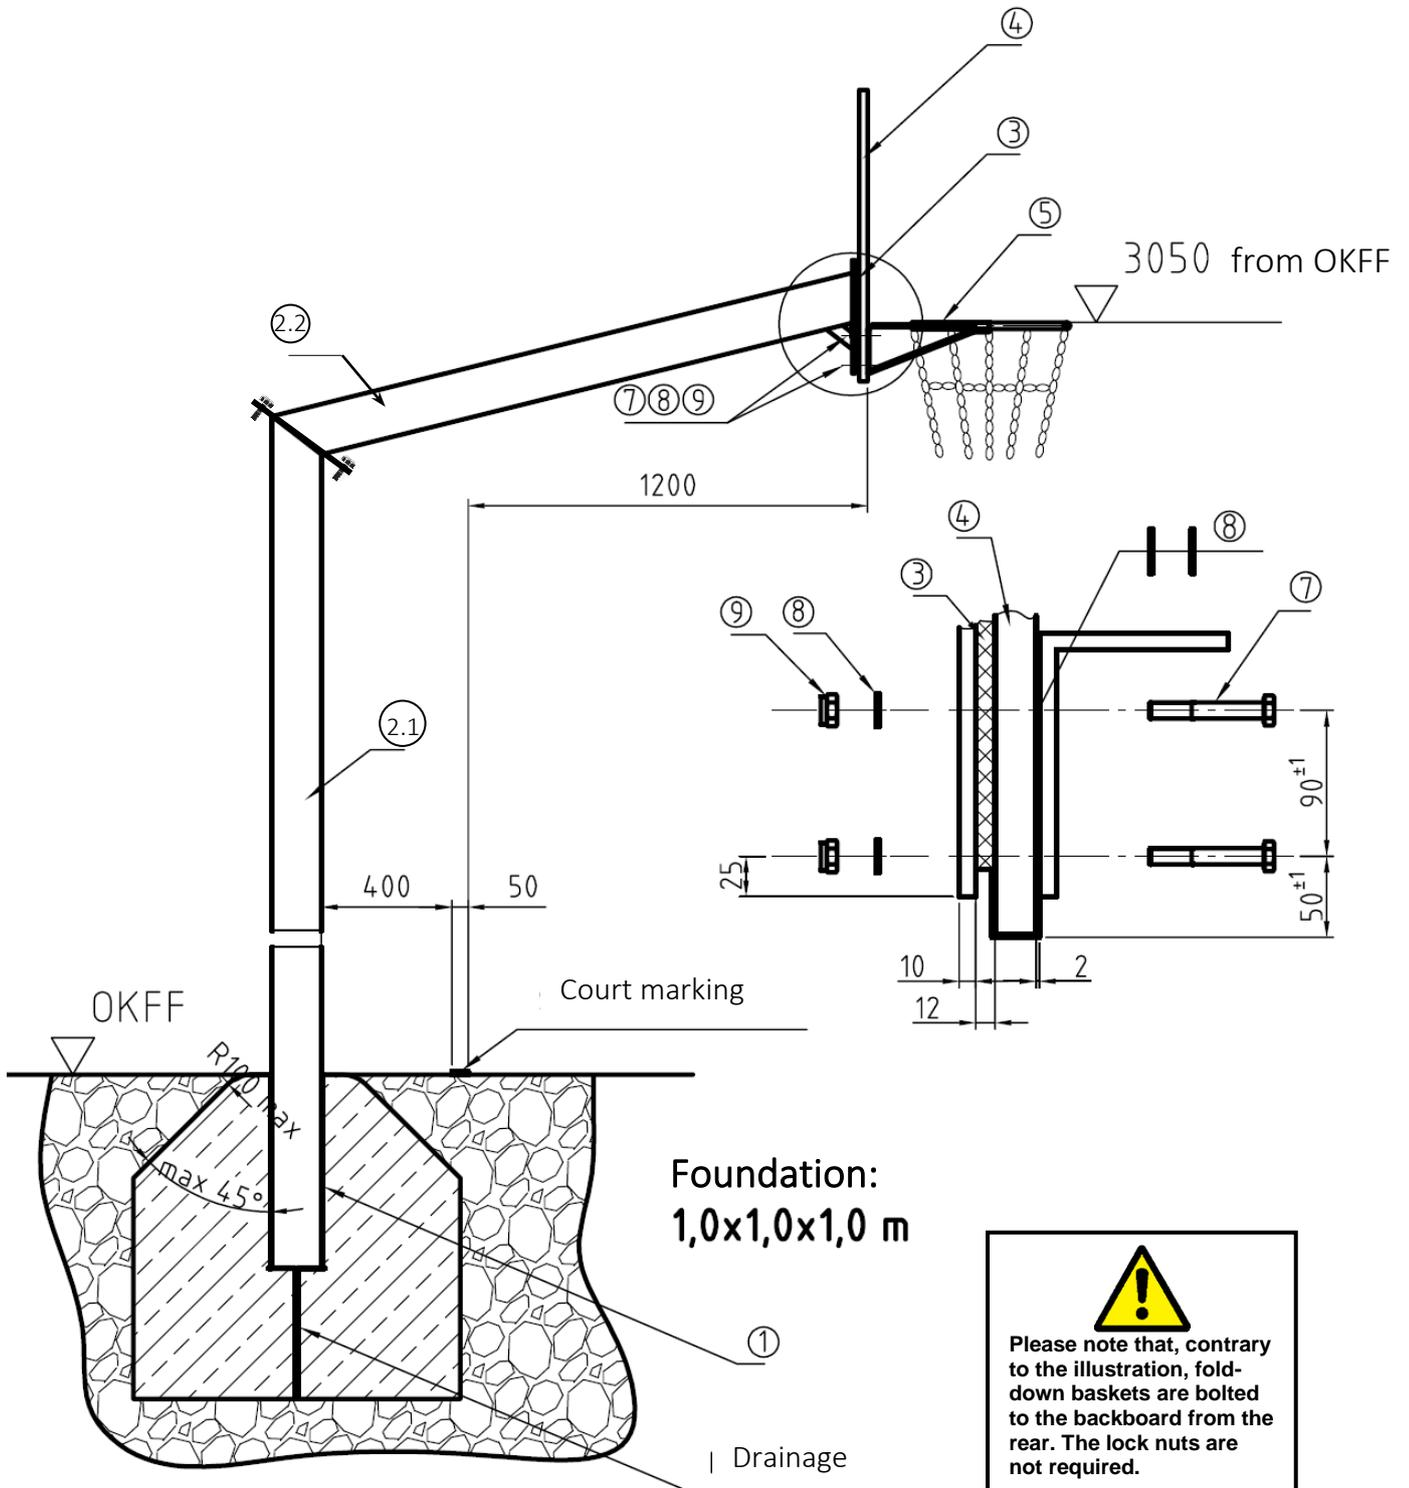

Figure 2: Fair Play 2.0 unit without height adjustment
Attach the basketball backboard (4a or 4b) and hoop (5a or 5b), as shown in figure 2 using M10×70 machine screws (7), washers (8) and nuts (9) – variant 4a must be attached from the front, and variant 4b from the back. Insert the damping pad (3) as insulation between the bracket on the post and the backboard. Also insert the washers between the hoop and the backboard as shown in figure 2.
The washers (8) are not required for the assembly. See figure 2 for further details regarding installation.
The damping pad, the relevant backboard and the hoop are attached to the front of the height adjustment feature (see figures 2 and 3 for details).